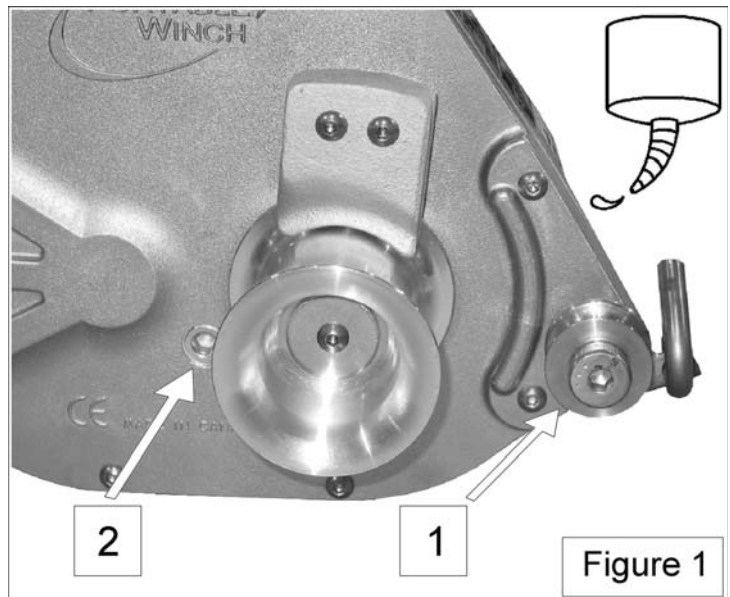

Figure 1
- 1) If you have to link two rope lengths, do it with two bowline knots (figure 1, no 1) (see section 3.2.1 for knots).
- 2) Leave about 1 m of rope tailing out of the knot on the rope holding the load (figure 1, no 2). You will need it to resume winching after undoing the knots.
Periodically, remove the capstan drum (section 2.2.4) and clean around the shaft (figure 1). Accumulated debris can damage the shaft seal. Apply oil to prevent corrosion.
The front pulley (figure 1, no 1) must turn freely. Lubricate it regularly with light oil. Dirt and grime lodged between the pulley and the shaft may prevent it from turning freely. If required, disassemble it to clean the shaft. Use an 8 mm hex key.
The gearbox is lubricated at the factory and should not require additional lubrication or maintenance. If there is appearance of a leak, check oil level by placing the winch on a level surface and remove the oil plug (figure 1, no 2). Use an 8 mm hex key.